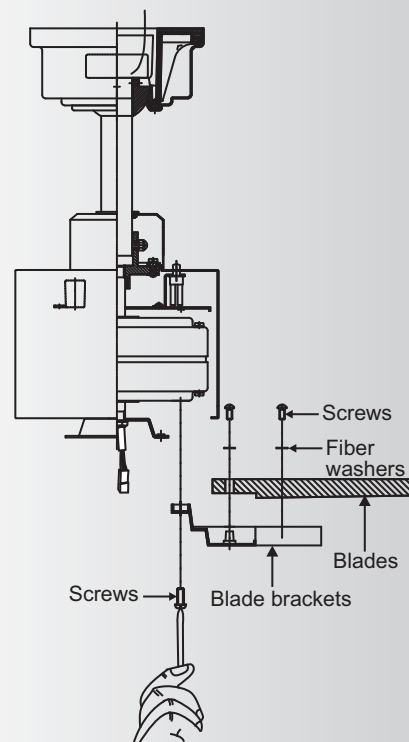

Fig. 16
Step 2. Slide the canopy up to the mounting bracket and place one of the key hole slots over the mounting screw on the mounting bracket. Rotate the canopy until the screw head locks in place at the narrow section of the key hole. See figure 16.
Step 1. Attach a blade to a blade bracket using the screws and fiber washers provided. (Fig. 16)
Step 2. Attach each blade assembly to the motor using the "Pre-Installed" mounting screws in the blade bracket. (Fig. 16)